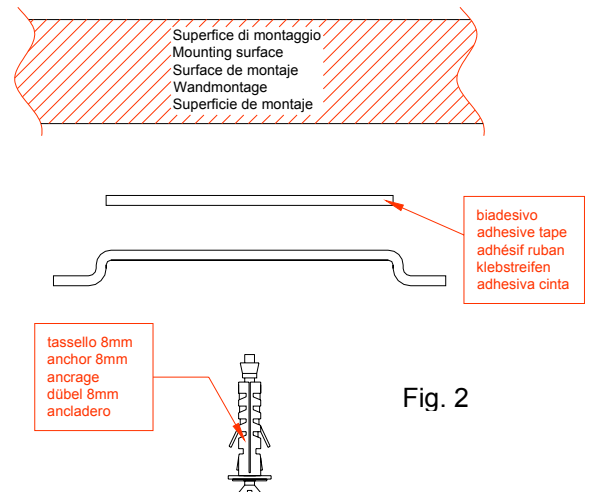

Fig. 2
- Fasten the metal bracket using the screw provided, as shown in fig. 2;